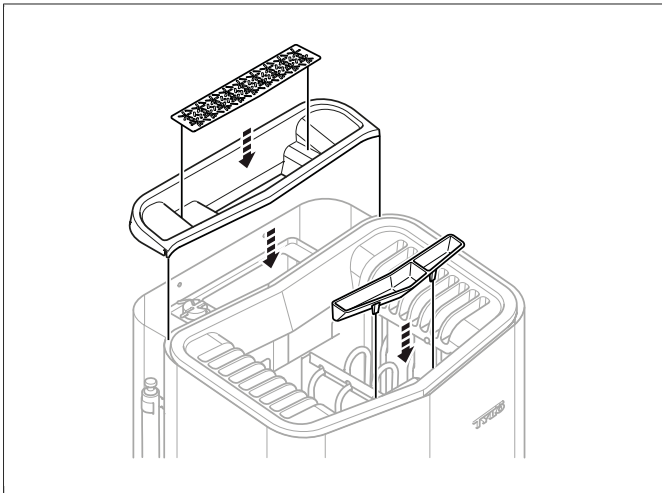

Figure 13: Fitting the cover for the water reservoir, herb grille and fragrance holder/air humidifier
11. Fit the cover for the water reservoir, herb grille and fragrance holder/air humidifier (see **Figure 13**, Page 6).